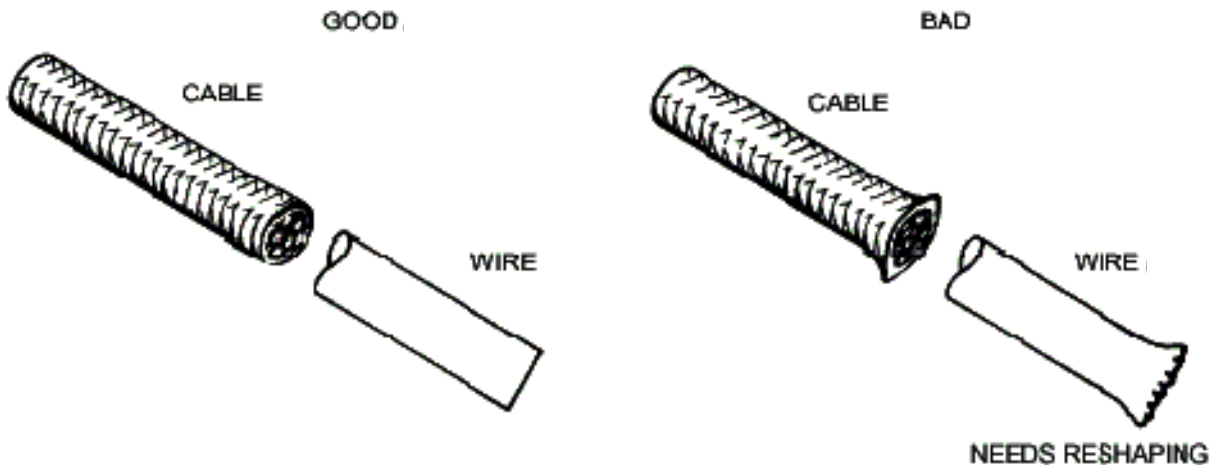

Figure 16. After Cutting
e. Assure that insulation is cut clean with no frayed edges (see Figure 16). Trim, if necessary.